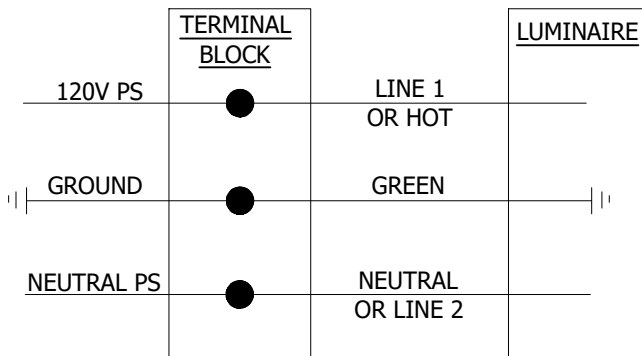

FIGURE 7
② ATTACH SERVICE LEADS TO TERMINAL BLOCK AS SHOWN ON THE WIRING SCHEMATIC. SEE FIGURE 7.